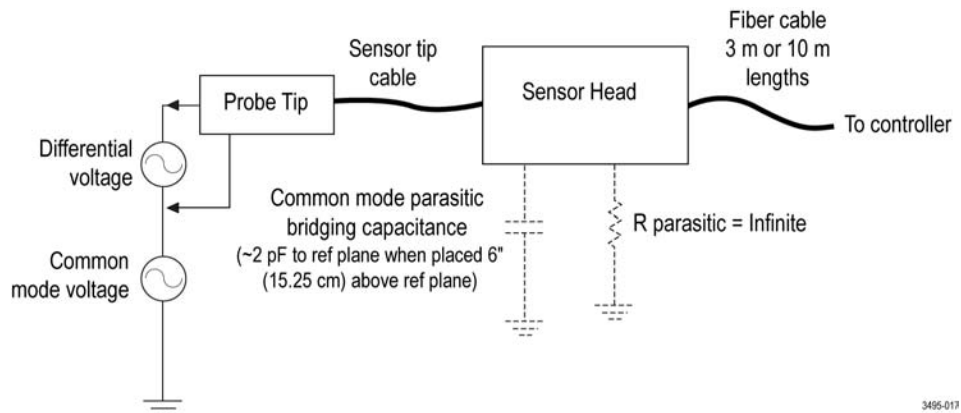

Figure 25: Block diagram
The common mode resistance and capacitance to earth ground is shown in the figure. (See Figure 25.) The common mode resistance is shown as  $R_{parasitic}$  and is essentially infinite with the IsoVu measurement system since it is galvanically isolated and can be ignored. The common mode coupling capacitance to earth ground and the surrounding circuit is shown as the Parasitic Bridging Capacitance ( $C_{parasitic}$ ). This parasitic capacitance will be approximately 2 pF when the sensor head is placed six (6) inches (15.25 cm) above a ground plane.